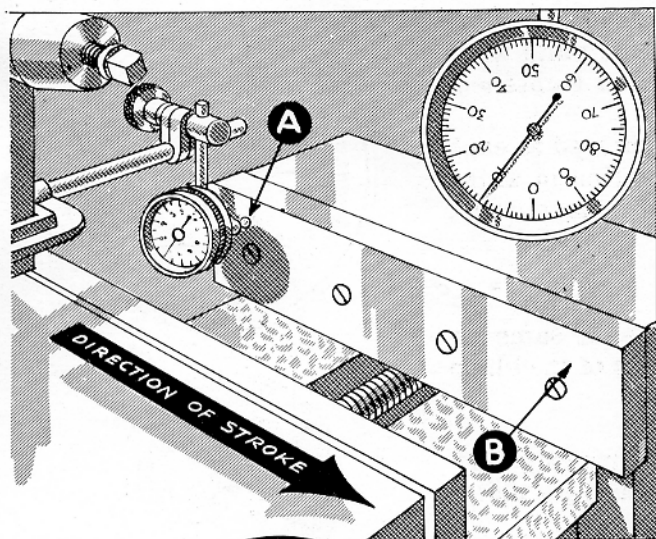

FIG. 160
4. Clamp the assembled indicator in the tool post or to the shank of the tool holder (Fig. 160).
6. Arrange the indicator with the contact point toward, but not touching, the face of the fixed jaw (Fig. 160).
9. Move the ram to the beginning of the stroke as illustrated at (A), Fig. 160.